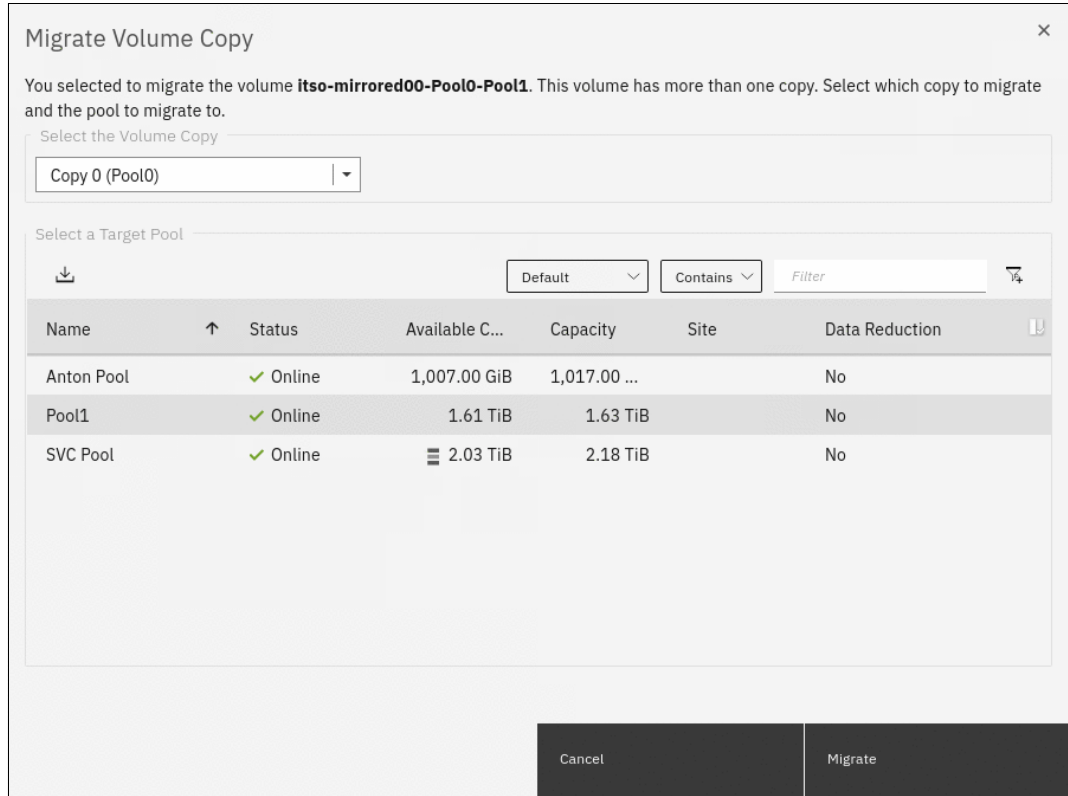

Figure 6-75 Migrate Volume Copy: Selecting the volume copy
- The Migrate Volume Copy window opens. If your volume consists of more than one copy, select the copy that you want to migrate to another storage pool, as shown in Figure 6-75. If the selected volume consists of one copy, the volume copy selection window is not displayed.
- Select the new target storage pool and click **Migrate**, as shown in Figure 6-75. The Select a Target Pool window displays the list of all pools that are a valid migration copy target for the selected volume copy.